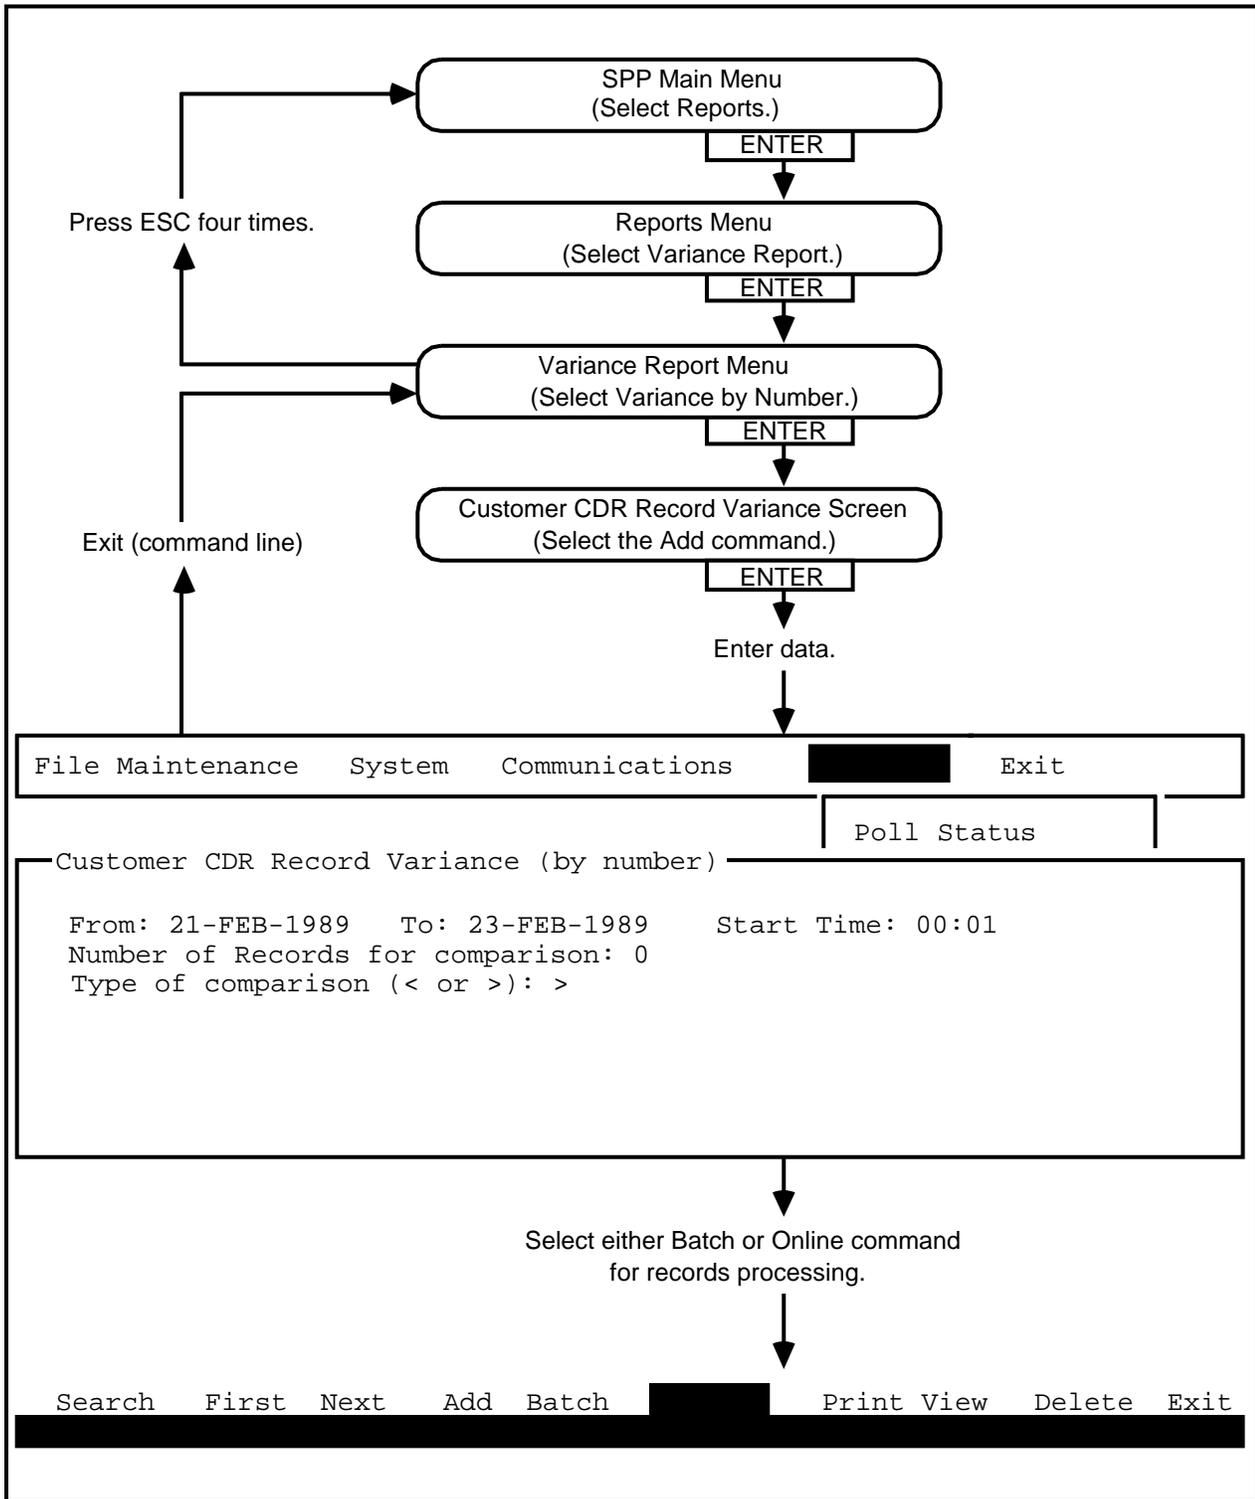

Fig. 6-2
6.05 To generate reports for a specified date range, showing sites for which the volume of records polled is greater or lesser than a specified number (see Fig. 6-2) proceed as follows: